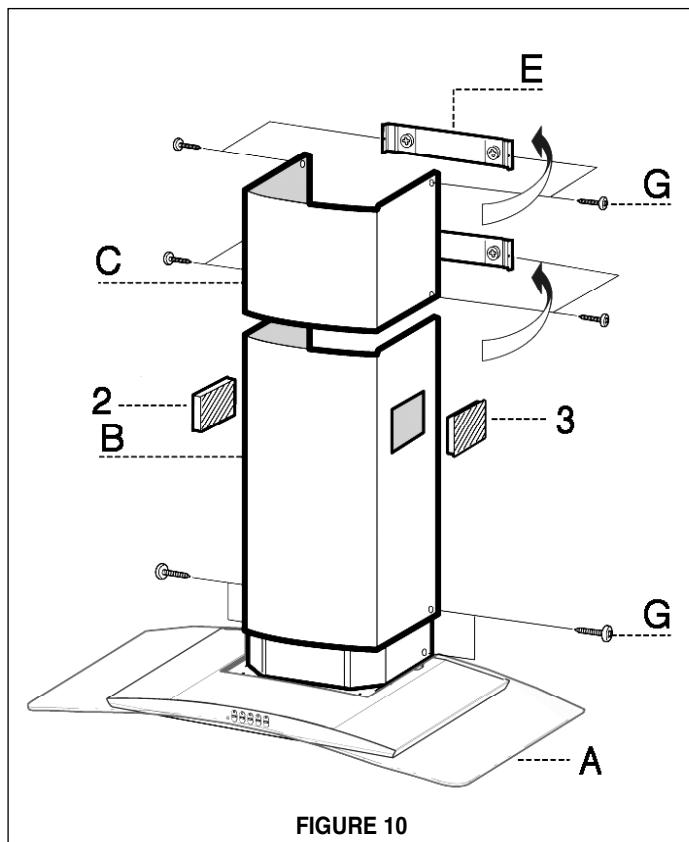

FIGURE 10
2. Install the **UPPER CHIMNEY COVER (C in FIGURE 10)** by slightly widening the two sides and hooking them behind the **CHIMNEY MOUNTING BRACKETS (E)**. Secure the sides to the **CHIMNEY MOUNTING BRACKETS** with the 4 **CHIMNEY SCREWS (G)**.
3. Install the **LOWER CHIMNEY COVER (B)** by slightly widening the two sides of the **LOWER CHIMNEY COVER** and hooking them between the **UPPER CHIMNEY COVER** and the wall making sure that it fits snugly. Secure the **LOWER CHIMNEY COVER** to the **CANOPY SECTION (A)** with 2 **CHIMNEY SCREWS (G)**.